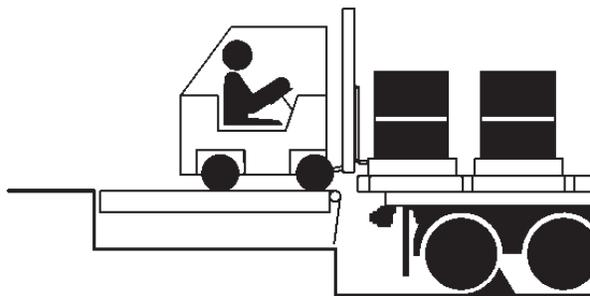

Figure 22
4. If transport vehicle bed is at or above dock floor level, leave leveler at the cross-traffic position and proceed with loading or unloading (see Figure 22). If transport vehicle bed is below the dock floor level, continue with Step 5.